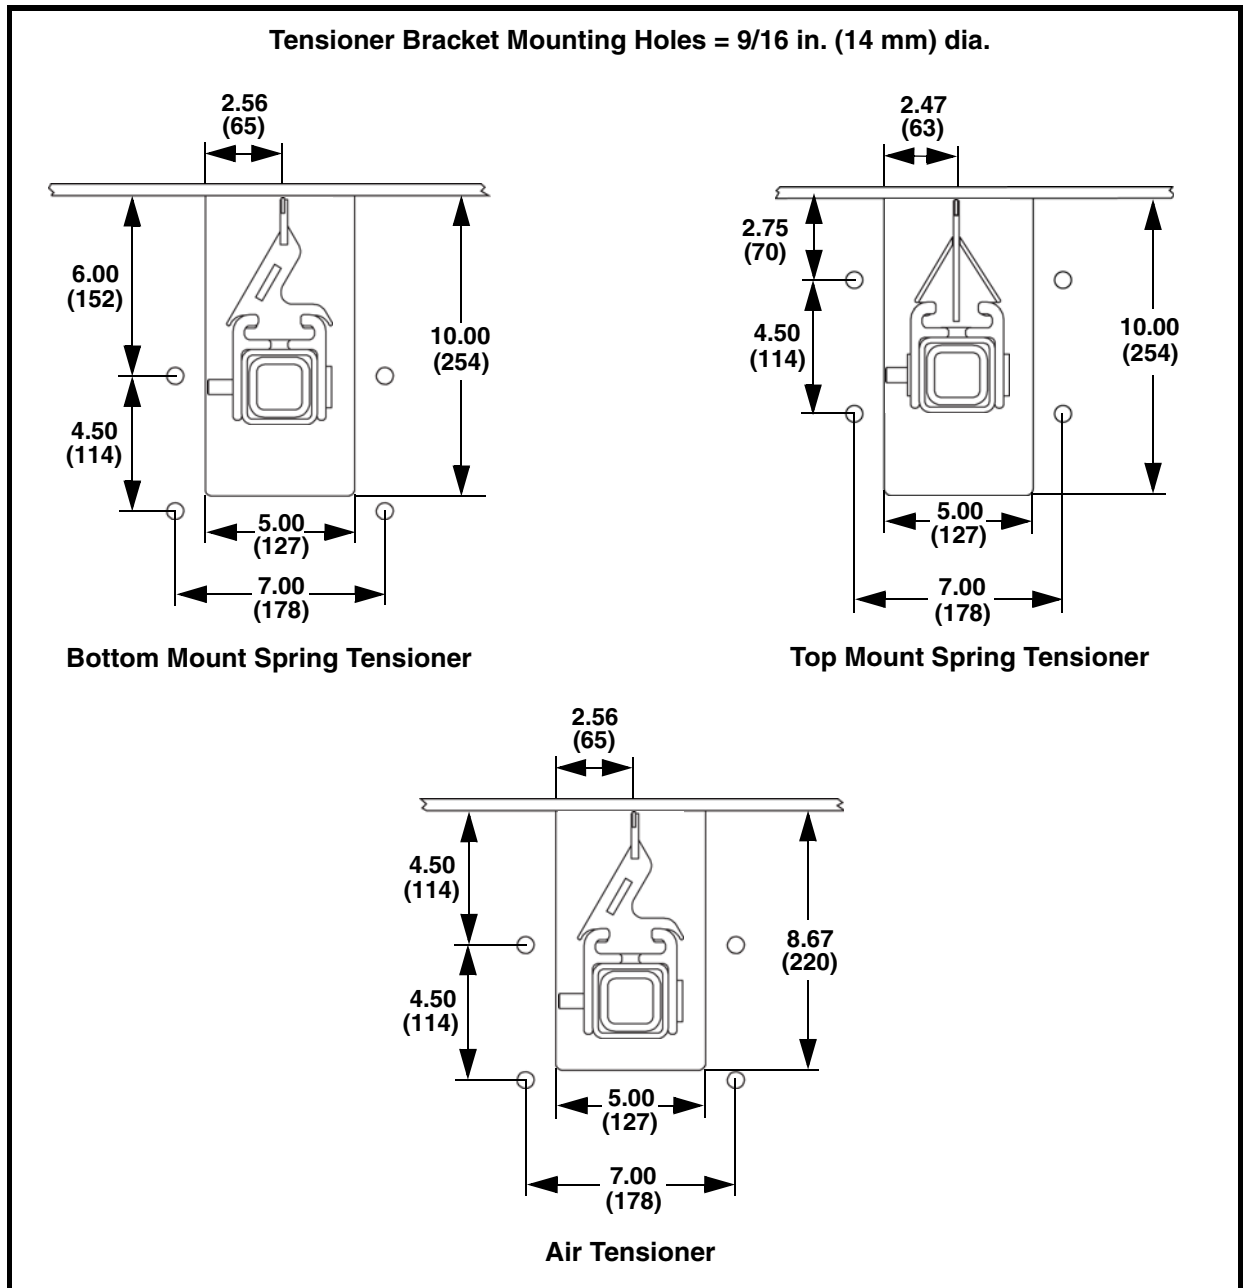

**Figure 2. Spring Tensioner Conversion**
1. If using spring tensioner, determine how much space is available for spring tensioner installation. If necessary, convert bottom mount spring tensioner to top mount before installing. See Figure 2.
- a. Loosen jam nut (C).
- b. Remove cotter pins (F).
- c. Remove threaded rod (G) and spring assembly (D) from slide bracket (B).
- d. Install jam nut (C) on opposite end of threaded rod.
- e. Remove pins (E) and guide rods (A) from mount bracket.